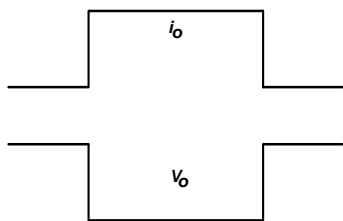
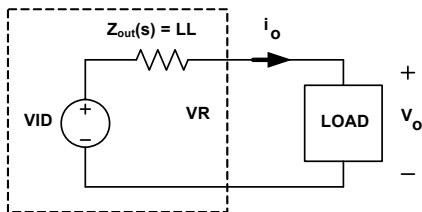

FIGURE 18. DESIRED LOAD TRANSIENT RESPONSE WAVEFORMS
FIGURE 24. VOLTAGE REGULATOR EQUIVALENT CIRCUIT
Assuming the compensator design is correct, Figure 18 shows the expected load transient response waveforms if  $C_n$  is correctly selected. When the load current  $I_{core}$  has a square change, the output voltage  $V_{core}$  also has a square response.
Figure 18 shows the desired load transient response waveforms. Figure 24 shows the equivalent circuit of a voltage regulator (VR) with the droop function. A VR is equivalent to a voltage source (= VID) and output impedance  $Z_{\text{out}}(s)$ . If  $Z_{\text{out}}(s)$  is equal to the load line slope LL, i.e., constant output impedance, in the entire frequency range,  $V_o$  will have square response when  $I_o$  has a square change.